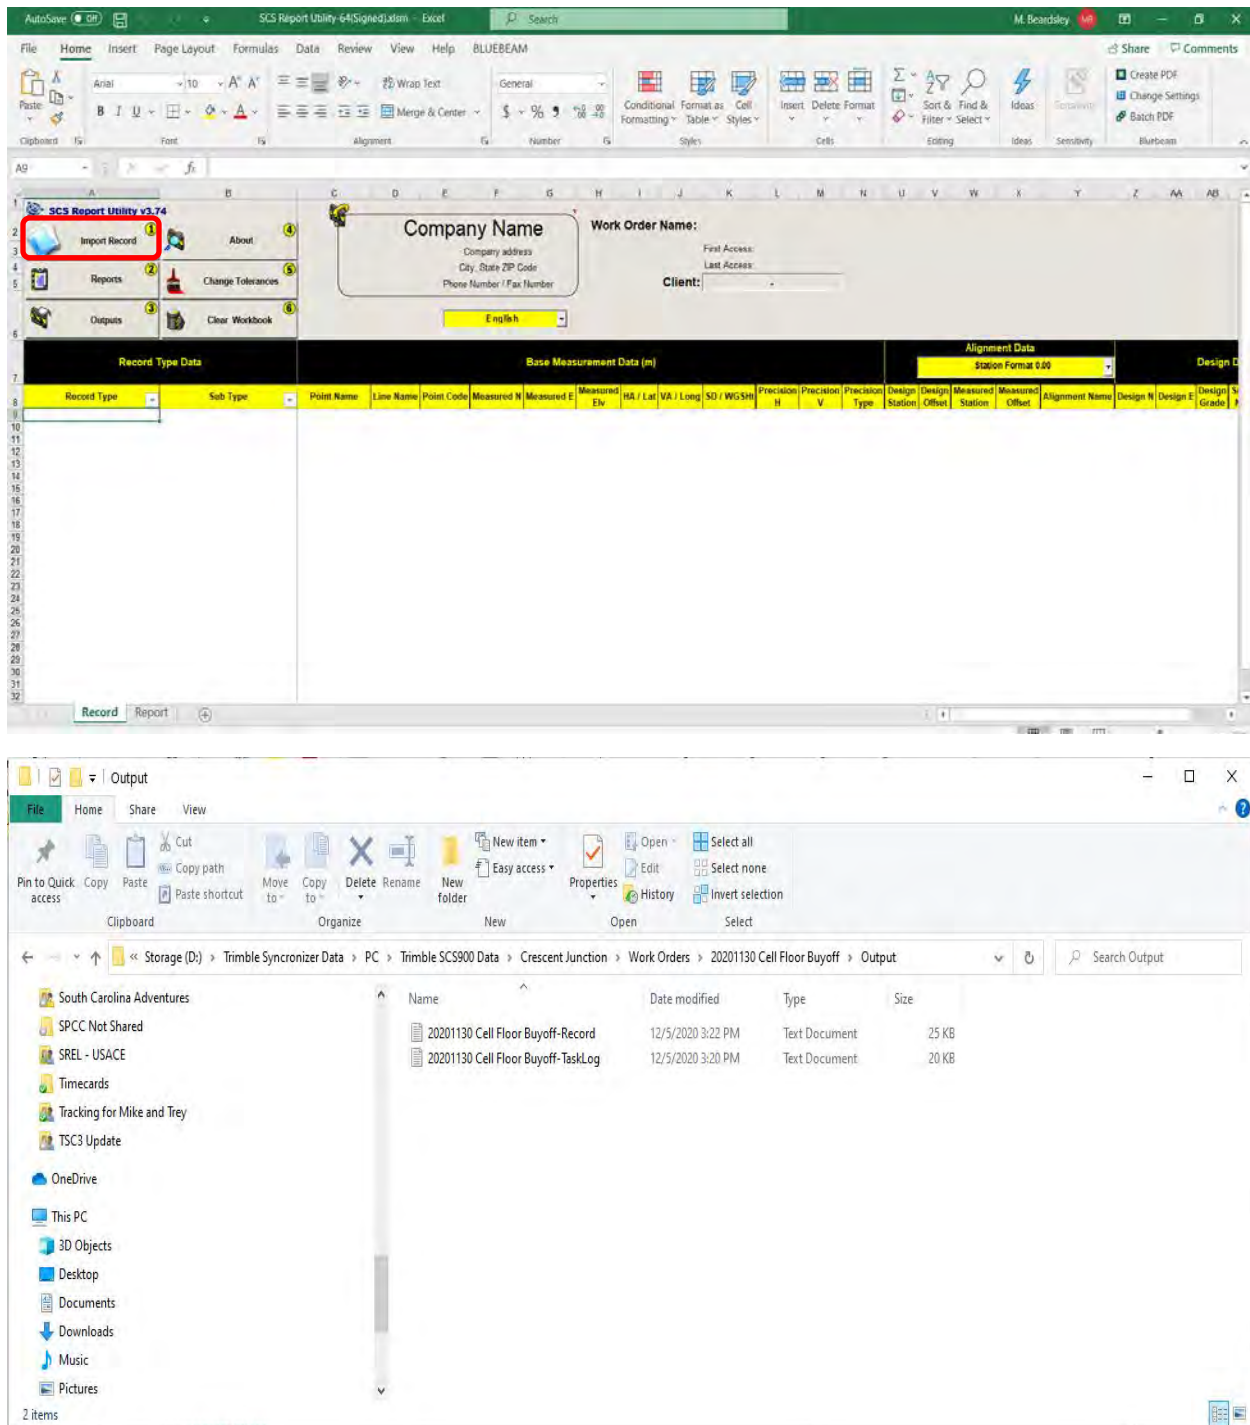

Figure 13. Import Record
Step 3: Click on “1 Import Record” (Figure 13). Navigate to the Trimble Synchronizer directory, proper controller directory, the in Trimble SCS900 Data > Crescent Junction> Work Orders > Work Order Name> Output. Then click on the record.txt file.